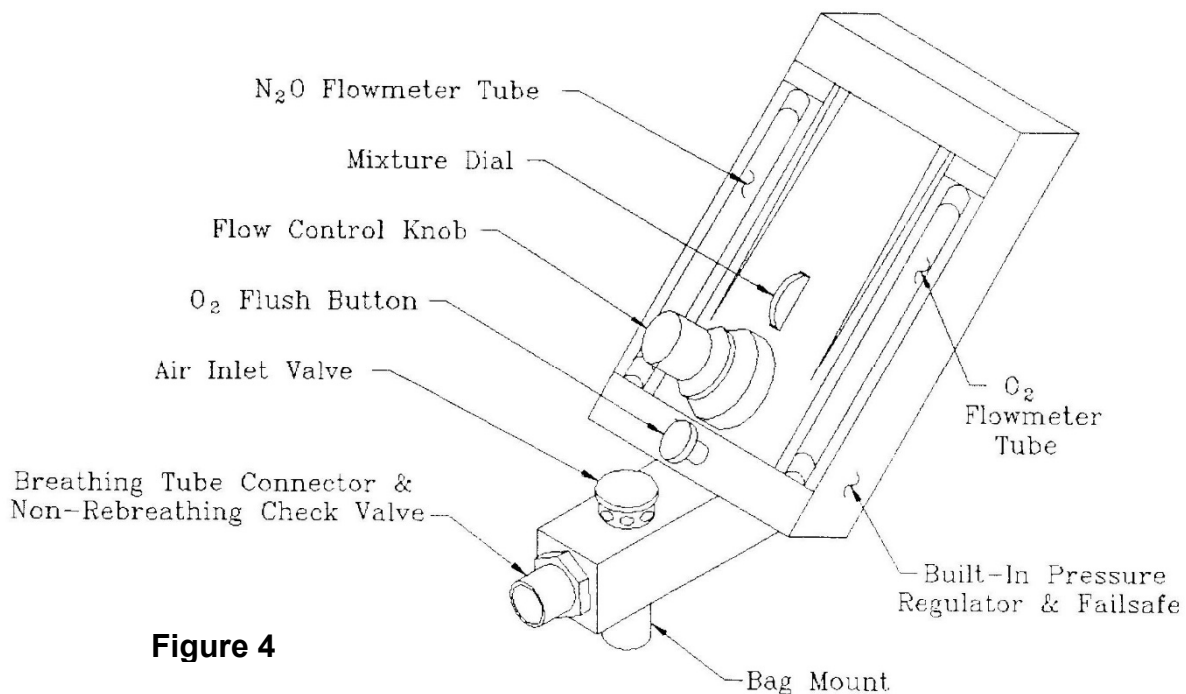

Figure 4
1. Rotate flow control valve fully counter-clockwise (See Figure 4). Rotate mixture dial to 100% position.
NOTE: The failure of any one of the following tests will require the analgesia unit to be returned for service. These tests must be conducted periodically to insure that your analgesia unit is performing optimally (see Figure 4).